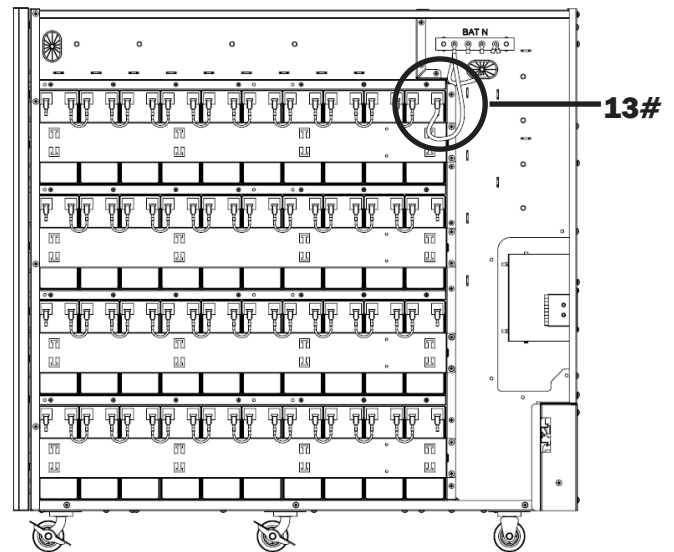

Figure 5-21B
32. Connect group 4 battery 11+ to N battery bus bar (BAT N) (Figure 5-21B).